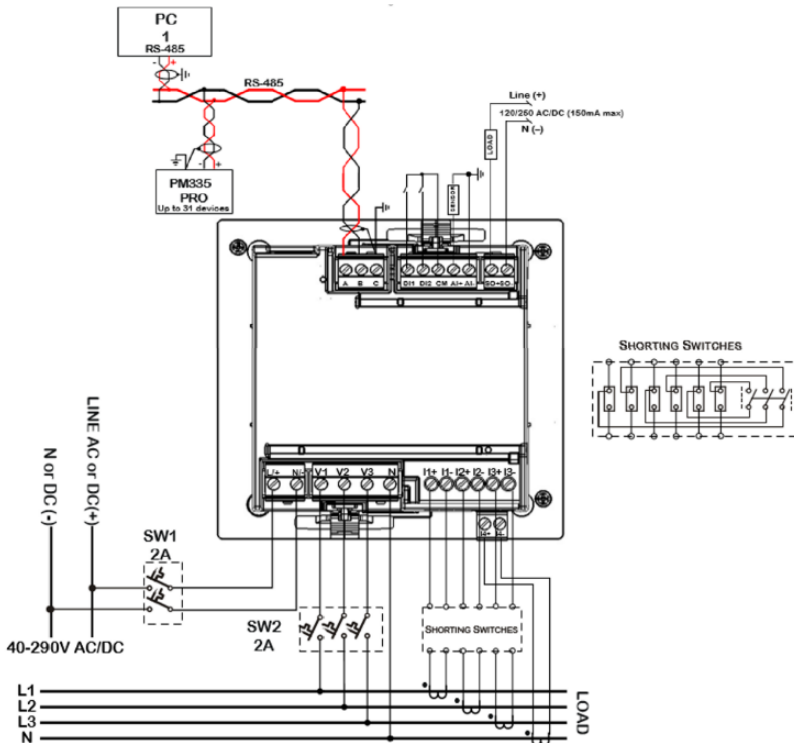

Figure 2: Electrical wiring
The following steps correspond with a low-voltage three phase network (figure 2):
4. Standard external current transformers: connect the CT's (14 AWG minimum) "+" pole to the device's **I1+** current input (unit's bottom right of rear end, as in figure 2) and the "-" pole to the adjacent **I1-** current input. Repeat this for the following two phases, **I2** and **I3**.